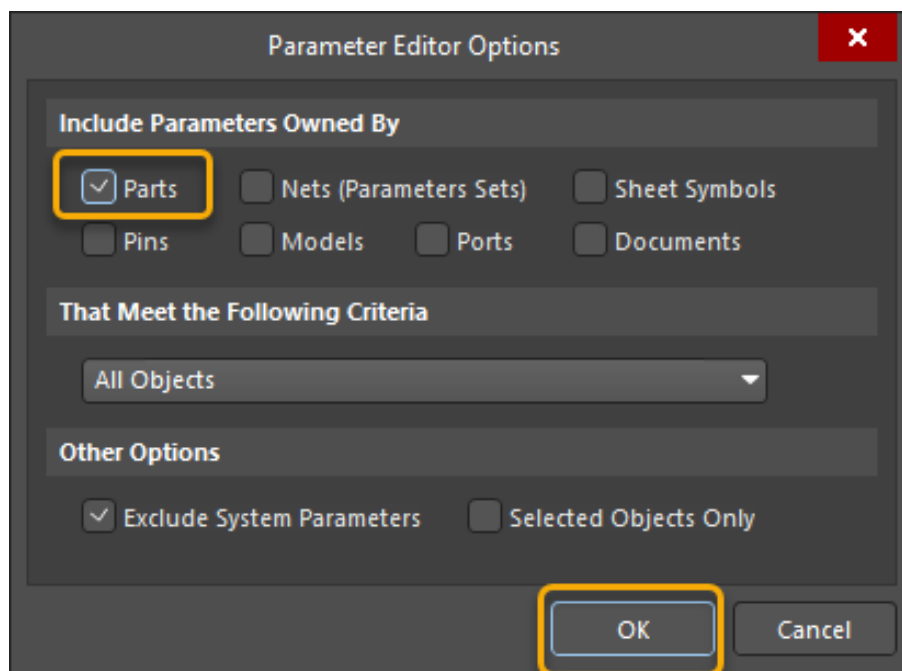

Figure 4. Parameter Editor Options
32. In the *Parameter Editor Options* dialog, disable all options in the *Include Parameters Owned By* section, except for **Parts**, and then select **OK**. See Figure 4.